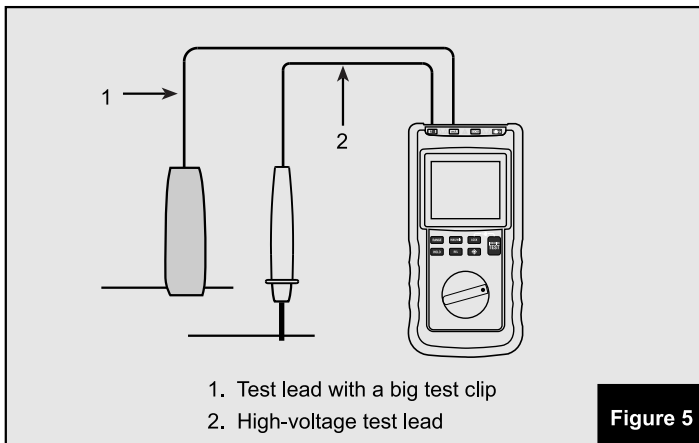

Figure 5
1. Refer to Figure 5 and the section of "**Identifying Test Leads**", insert the plug of the high-voltage test lead into "MΩ" jack, then insert the plug of the test lead which has a big test clip into "mA" jack.